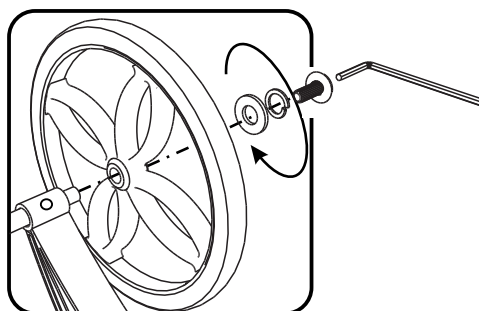

Figure 4
Orientate Wheels (G) so large hole in center of Wheels (G) is to outside of unit, then attach Wheels (G) to unit with Head Cap Bolts (short), Spring Washers and Flat Washers, tightening Head Cap Bolts only halfway. (See Figure 4)